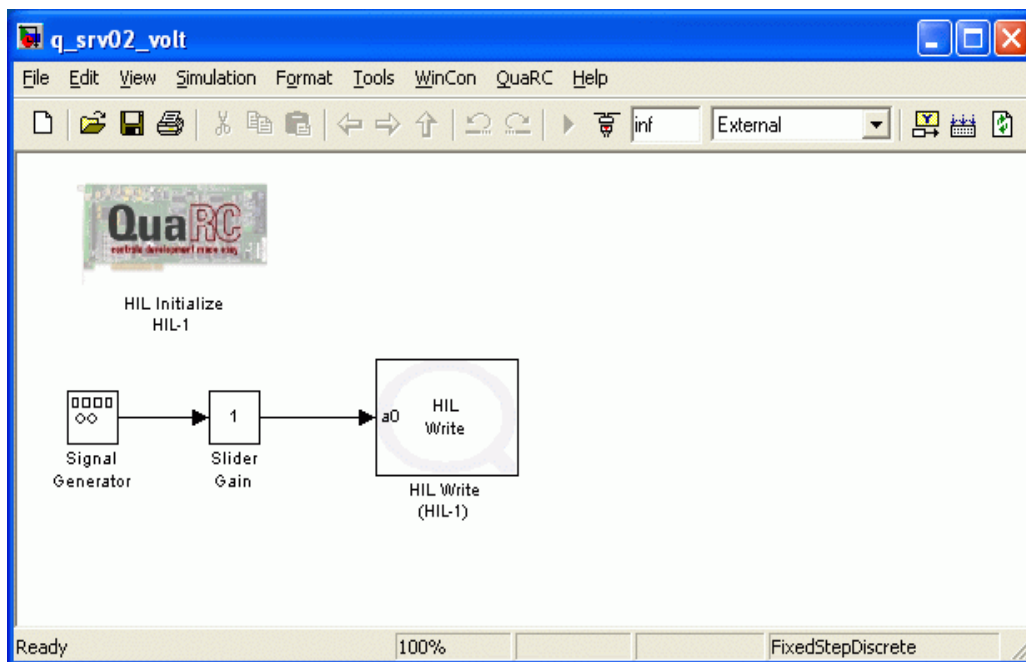

Figure 1: Sample Simulink Model used to feed sinusoid voltage to the SRV02.
In this section, it is shown how to design a Simulink Model using QuaRC blocks to feed a sinusoid voltage to the SRV02, as shown in Figure 1. The blocks from the *QuaRC Targets* library are used to interact with the hardware-in-the-loop board, e.g. Quanser Q4 or Q8 device.
8. Add the Signal Generator block, found in the *Simulink \ Source* folder, and the Slider Gain block, from the *Simulink \ Math Operations* category, into the Simulink model. Connect the blocks as shown in Figure 1.